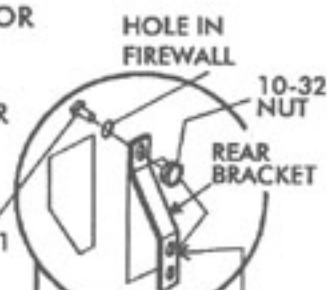

FIGURE 9A
- LOCATE THE EVAPORATOR REAR BRACKET STRAP IN THE KIT AND ADJUST FOR YOUR TRUCK'S YEAR ACCORDING TO FIGURE 9A.
- ATTACH REAR BRACKET FOR EVAPORATOR TO FIREWALL USING 10/32 x 1" BOLT, AND LOCKNUT AS SHOWN IN FIGURE 9A.